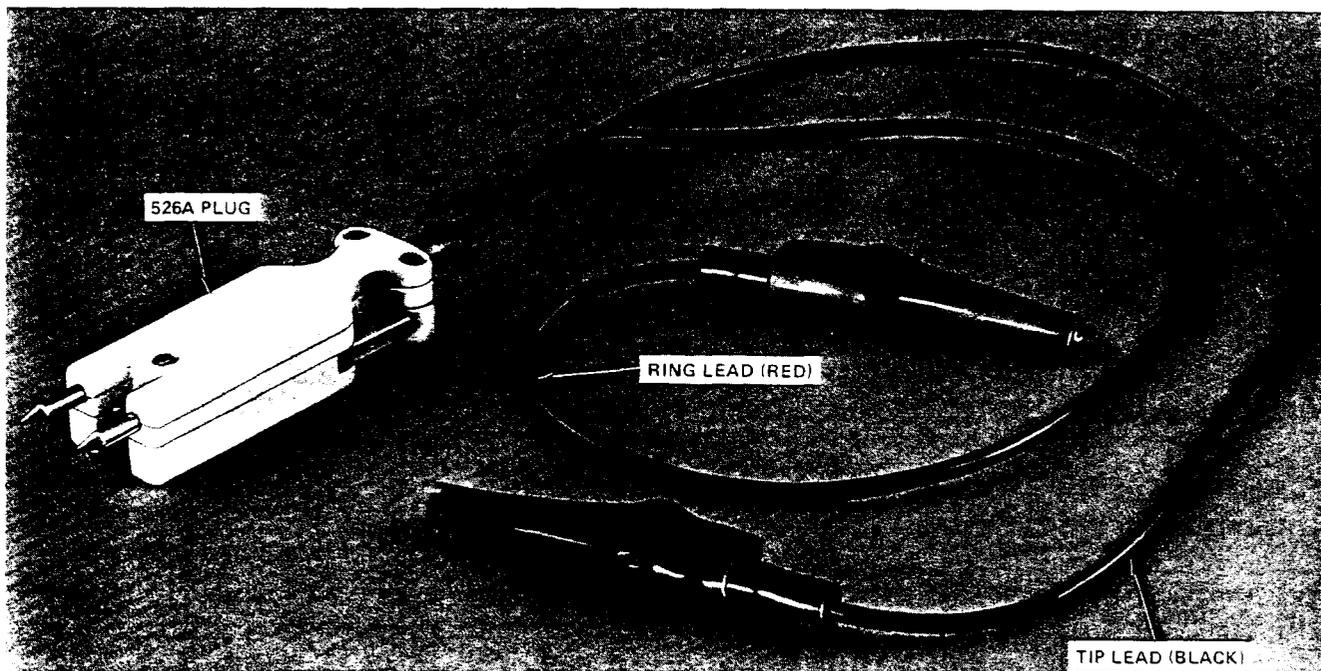

Figure 15. P2FL Test Cord
8.03 The P2FL test cord (Figure 15) is used to short the tip and ring inserting the plug end into the test points of a 4C-type plug-in unit on the 407-type connector.